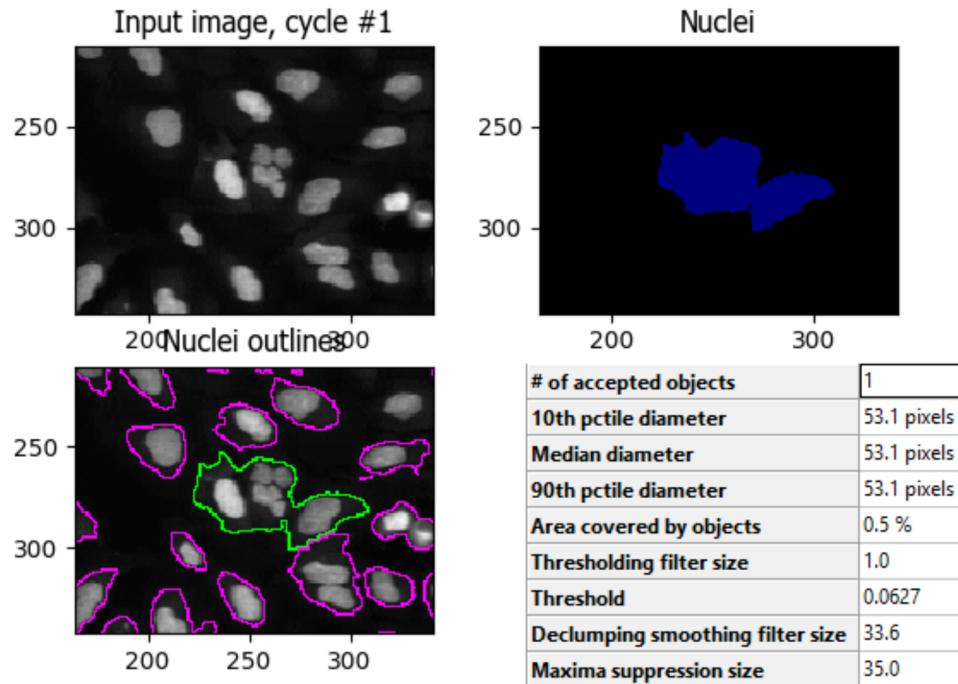

Figure 3: A zoomed-in view of the display window for IdentifyPrimaryObjects
- Zoom in the image in order to see the quality of the nuclei identification. The result may look like Figure 3.
In this instance, in Figure 3, you can see that the outlines capture too much of the background around the nuclei. This means that the default automated thresholding method calculated a threshold value that is too low. We can